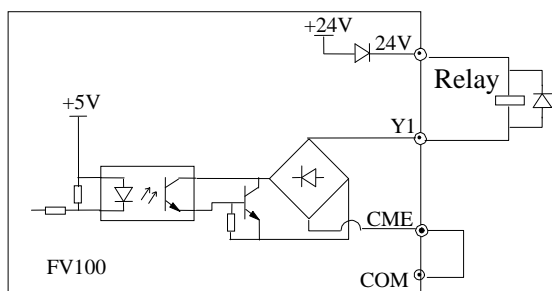
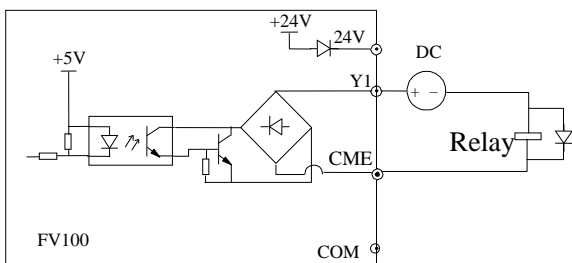

Fig 4-13 Wiring method 1 of multi-function output terminal Y1
Fig 4-14 Wiring method 2 of multi-function output terminal Y1
1. Multi-function output terminal Y1 can use the internal 24 power supply, the wiring is as shown in Fig.4-13
2. Multi-function output terminal Y1 can use the external 24 power supply too, the wiring is as shown in Fig.4-14.
5. The resistors R in Fig. 4-13 and Fig.4-14 should be removed for 24V input relays, and the resistance of R